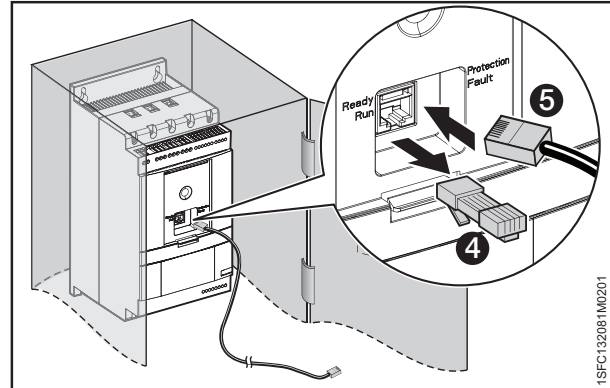

Figure 4.10
- Remove the RJ45 plug see **4**. Connect one end of the network cable to the network port on the front of the Softstarter **5** in **Figure 4.10**.